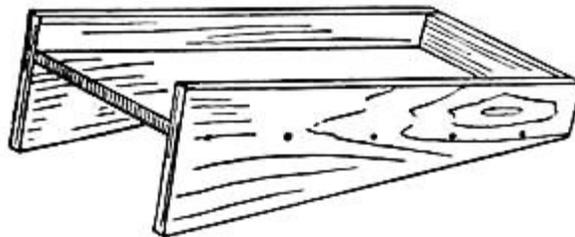

FIG. 154.—A Home-made Galley.
**A Galley.** Figure 154 shows a galley made of half-inch stuff. Cut the pieces as shown, and fasten them together so the bottom-piece is tilted sufficient to keep the lines from